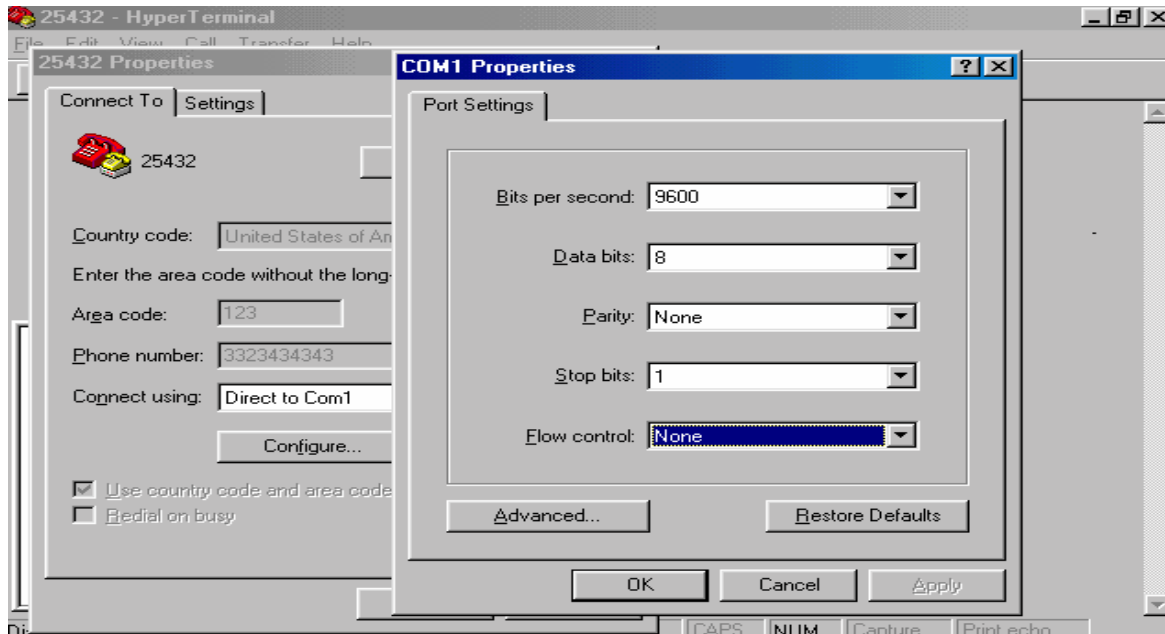

Figure 2. COM1 Properties
- Select File → Property → Connect To → Configure. Set the associated parameters as shown in Figure 2.